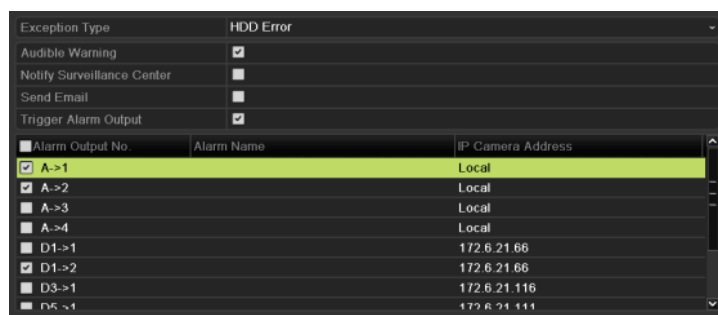

Figure 11.24 Configure HDD Error Alarm
3. Click the checkbox(s) below to select the HDD error alarm type (s), as shown in Figure 11.24.